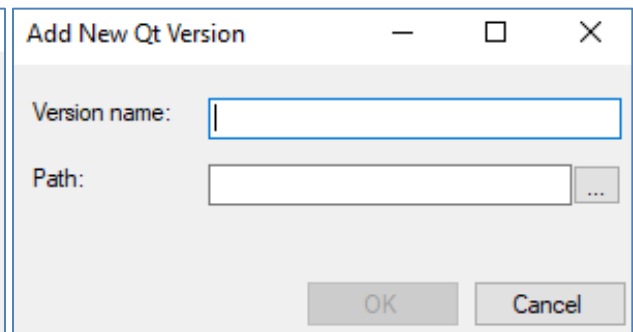

Figure 2: Add New QT Version
3. If the entry does not match, delete the entry and click *Add*. Browse to the path where the new version of QT is installed and click *OK* (Figure 2).